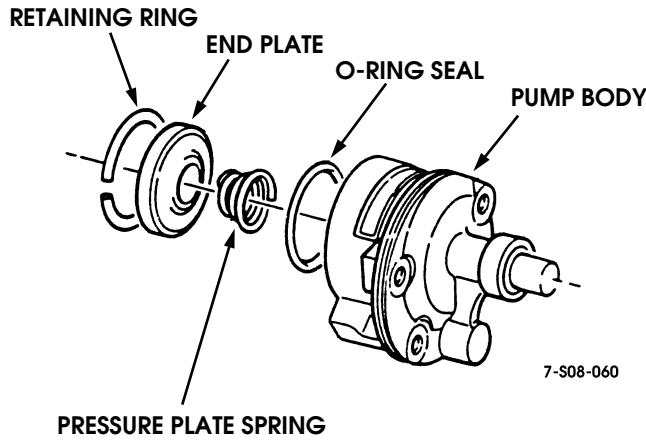

Figure 8-80: End Plate Installation
- 12. Install O-ring seal in center groove in pump body (Figure 8-80).